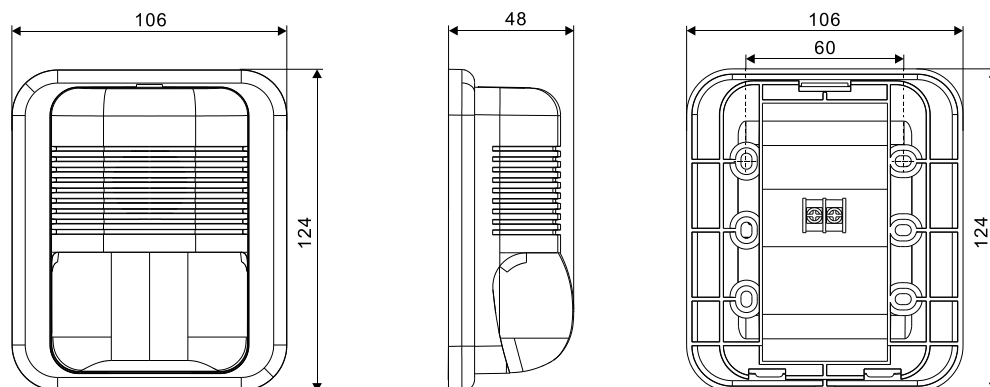

Figure 1
FDS183C-EN is mounted on a special base, as shown in Figure 1, and has dimensions of 106 (L) × 124 (W) × 48 (D) mm. It adopts the two-wire system for connection. The 24 V and 0 V terminals are connected with terminal 1 and terminal 2 respectively, the output of which is controlled by the I/O module. The terminals and their connection modes are shown below: